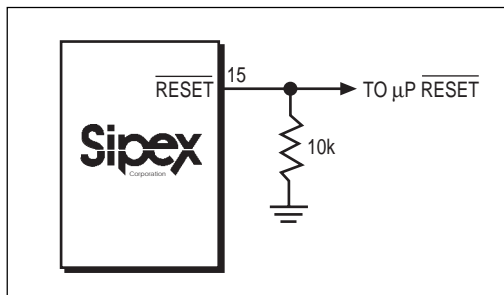

Figure 4. Adding an external pull-down resistor ensures RESET is valid with VCC down to GND.
1.6mA at $V_{OUT} = 0.5V$. When no backup battery is used, RESET output is valid down to $V_{CC} = 1V$, and an external $10k\Omega$ pull-down resistor on RESET ensures that RESET will be valid with V_{CC} down to GND as shown on *Figure 4*. As V_{CC} goes below 1V, the gate drive to the RESET output switch reduces accordingly, increasing the $r_{ds}(ON)$ and the saturation voltage. The $10k\Omega$ pull-down resistor ensures the parallel combination of switch and external resistor is $10k\Omega$ and the output saturation voltage is below 0.4V, while sinking $40\mu A$. When using a $10k\Omega$ external pull-down resistor, the high state for the RESET output with $V_{CC} = 4.75V$ is 4.5V typical. For battery voltages greater than or equal to 2V, RESET remains valid for V_{CC} between 0V and 5.5V. RESET will be asserted during the following conditions: